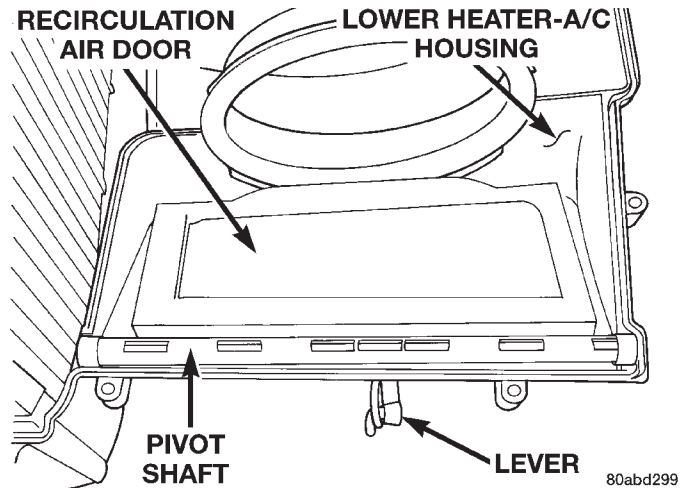

Fig. 55 Recirculation Air Door
(1) Remove and disassemble the heater-A/C housing. See Heater-A/C Housing in this group for the procedures.
(2) Remove the recirculation air door vacuum actuator from the lower heater-A/C housing. See Mode Door Vacuum Actuator in this group for the procedures.
(3) Reach inside the lower half of the heater-A/C housing and lift the bottom edge of the recirculation air door upwards (Fig. 55).
(4) Guide the recirculation air door lever through the air intake grille of the heater-A/C housing while removing the door from the housing.
(5) Reverse the removal procedures to install.